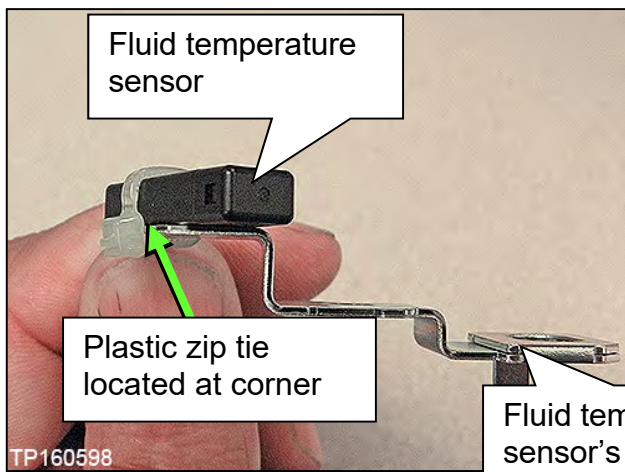
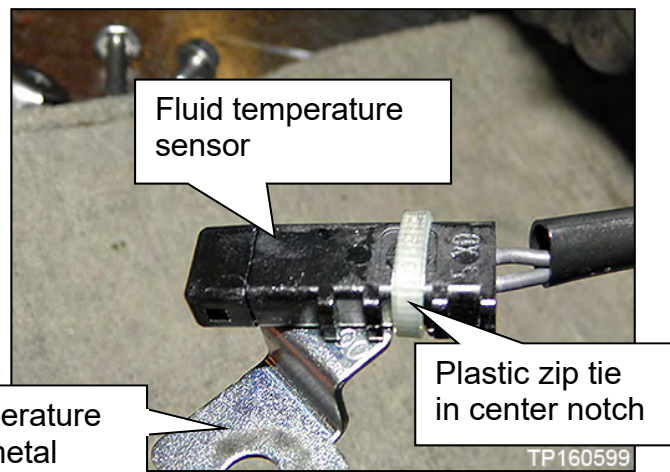

Figure 155
Figure 156
- a. Cut the old plastic zip tie with an appropriate tool to remove the fluid temperature sensor's metal bracket from the terminal harness assembly (Figure 155 and Figure 156).
- Secure the plastic zip tie at the center notch of three notches on the fluid temperature sensor (Figure 155).
- Tighten the plastic zip tie so that it is oriented as shown in Figure 156.